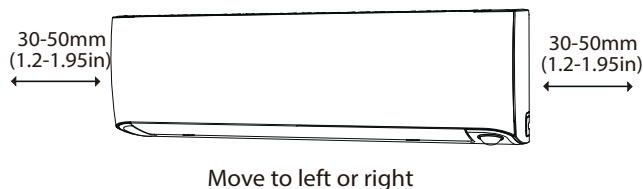

Fig. 12 —Hook Indoor Unit to Mounting Plate
1. Hook the top of the indoor unit on the upper hook of the mounting plate. Keep in mind that the hooks on the mounting plate are smaller than the holes on the back of the unit. If you find that you do not have ample room to connect the embedded pipes to the indoor unit, the unit can be adjusted left or right by about 1.25-1.95in. (30-50mm), depending on the model (see Fig. 12).